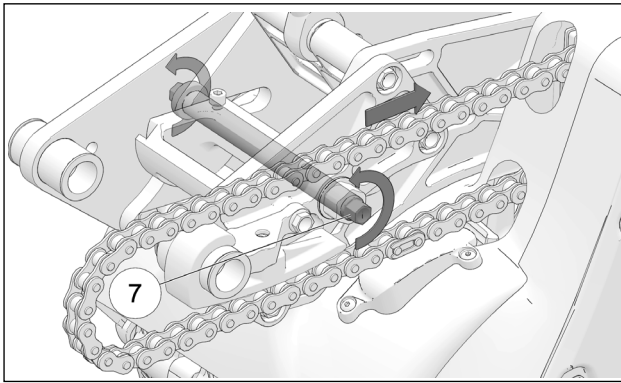

Figure 36
- Rotate eccentric bolt (7) to adjust chain tension as required. Use a 12-mm socket. Figure 36.